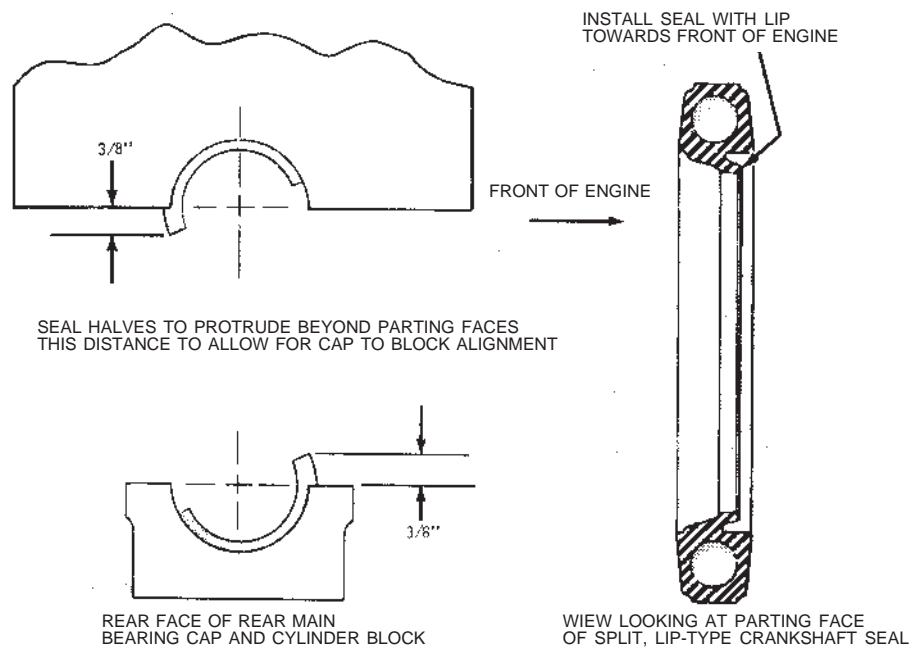

Fig. 24 Installing Crankshaft Rear Oil Seal
A split-lip type crankshaft rear oil seal is provided for servicing. The complete seal may be replaced without removing the crankshaft (Fig. 24).
3. Carefully install the upper seal (cylinder block) into its groove with undercut side of seal toward the FRONT of the engine (Fig. 24), by rotating it on the seal journal of the crankshaft until approximately 3/8 inch protrudes below the parting surface.
5. Install the lower seal in the rear main bearing cap with undercut side of seal toward the FRONT of the engine (Fig. 24). Allow the seal to protrude approximately 3/8-inch above the parting surface to mate with the upper seal when the cap is installed.